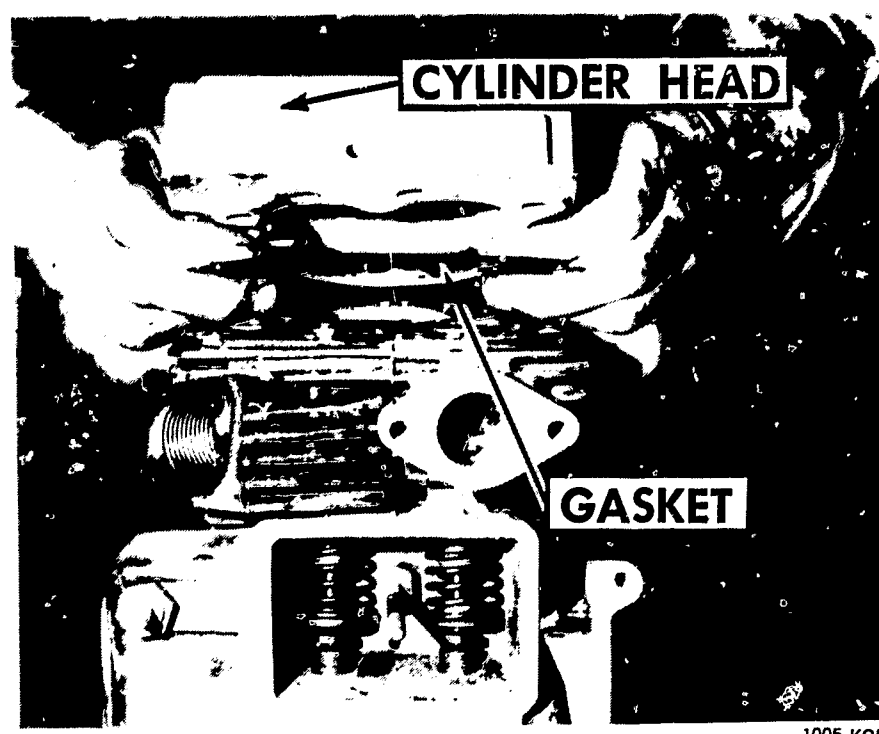

FIGURE 223. Installing the cylinder head and gasket.
3. Place cylinder head on cylinder block (Figure 223).